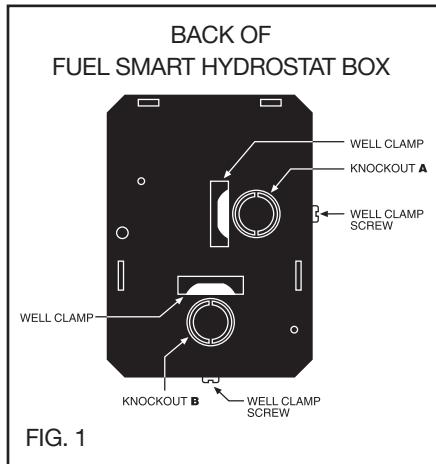

FIG. 1
**STEP 1** Two mounting positions are available on the back of the control (Fig. 1). Select which of the two positions (2 knockouts) is best for the location of the control. Remove the knockout.